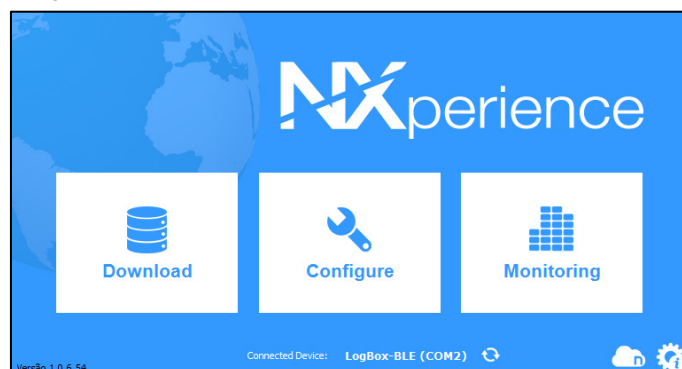

Fig. 63 – NXperience home screen
- f. On the **NXperience** startup screen, as shown in **Fig. 63**, pressing the Ctrl + Shift + F12 keys simultaneously will cause the firmware update screen to reappear, as shown in **Fig. 64**.